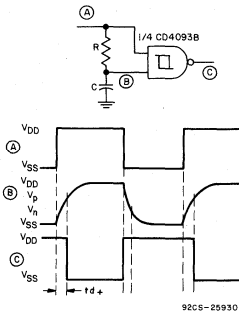

Fig.10 - Delay on leading edge.
**Edge Delays** - In the circuit of Fig.10, the output falling edge is delayed with respect to the input leading edge by a time td+ given by: